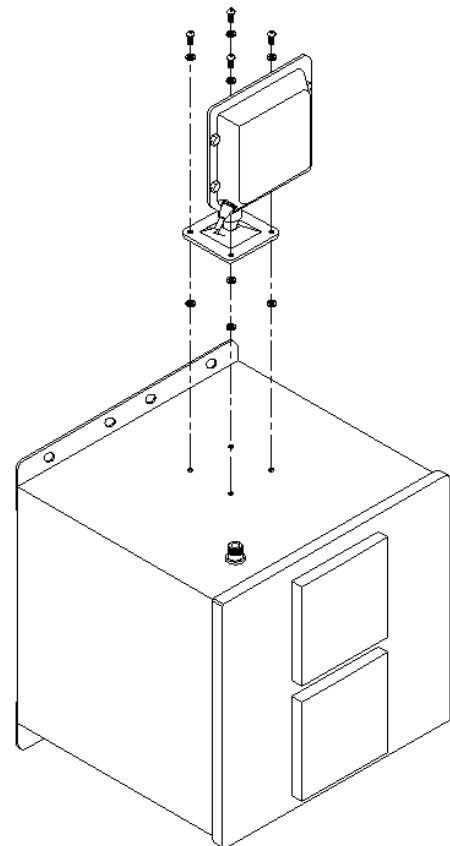

Figure 8 - Mounting the antenna.
Step 22 – Remove the four (4) #10-32 screws and urethane washers from the top of the enclosure.
Step 23 – Using the four (4) #10-32 X ½" screws supplied with the antenna kit, place a urethane washer on both sides of the mounting holes of the antenna adaptor (ref. *Figure 8*). Place the adaptor on the top surface of the enclosure, aligning the screws with the four (4) mounting holes. Secure the antenna by tightening the screws so that compression of the washers is evident (about an additional ½ to 1 full turn after you feel the screw come in contact with the washers).